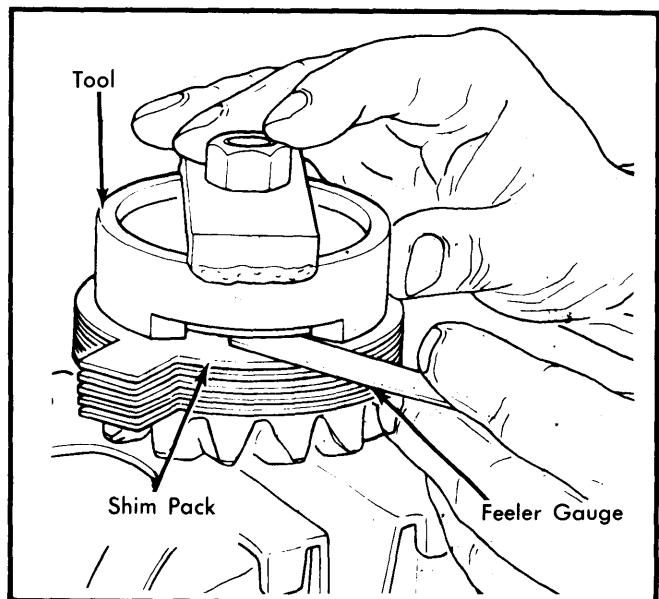

Fig. 4 Clutch Pack Installation
4) Pre-lubricate all plates with hypoid gear lubricant and assemble the side gear as shown in Fig. 4. Install suitable tool (T80P-4946-A) or equivalent on side gear clutch pack. Using a feeler gauge, select the thickest feeler blade that will enter between the tool and the clutch pack. See Fig. 4.